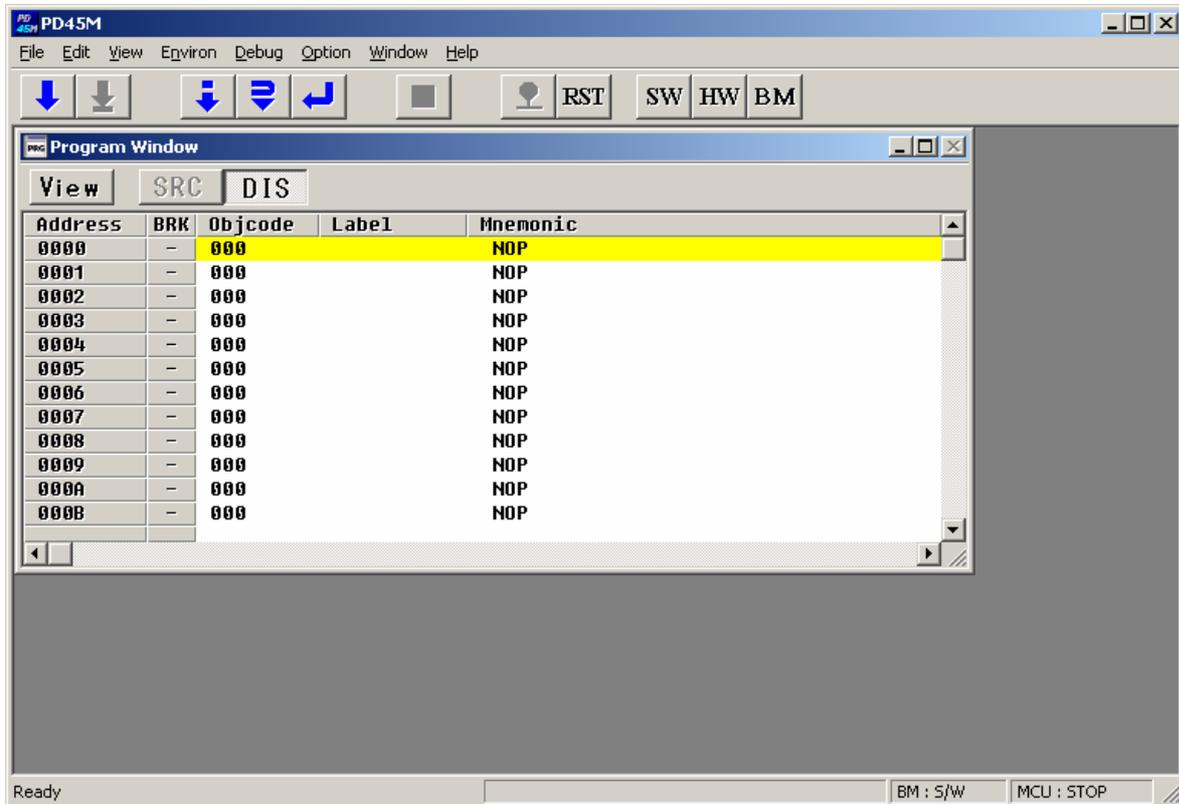

Figure 3.6: PD45M Main Window
12) The PD45M main window as shown in Figure 3.6 appears. Select the option “File>Download>Load Module...” from the window tool bar to download the HEX file of the sample software. then you can debug.